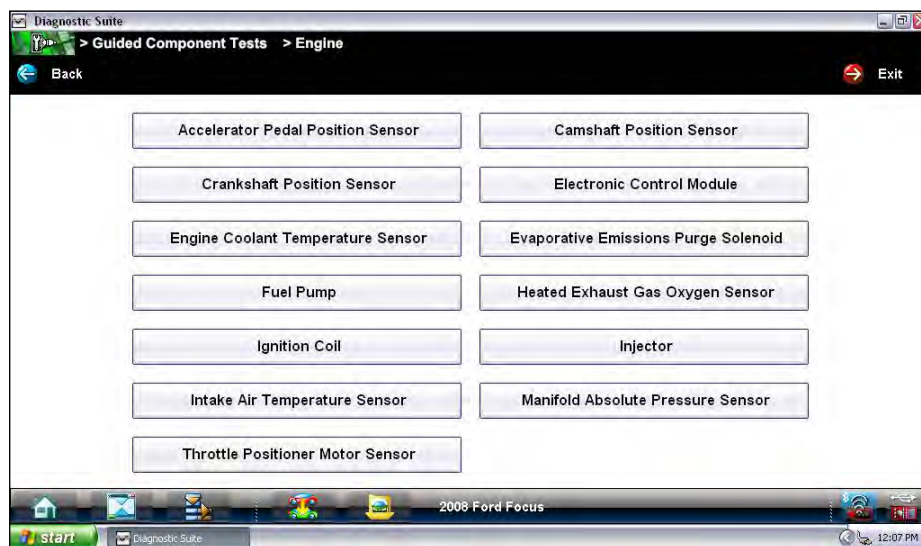

Figure 7-3 Sample available component tests list
8. Select **ENGINE** and a component test menu displays (Figure 7-3).